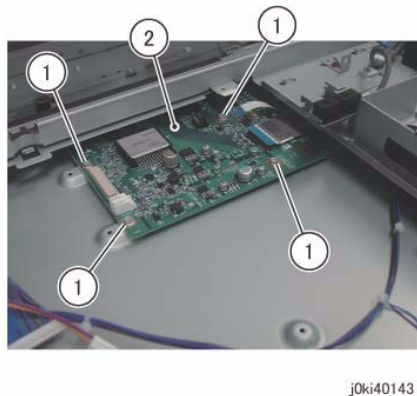

Figure 4 Remove the IIT PWB
- 11. Remove the IIT PWB. (Figure 4)